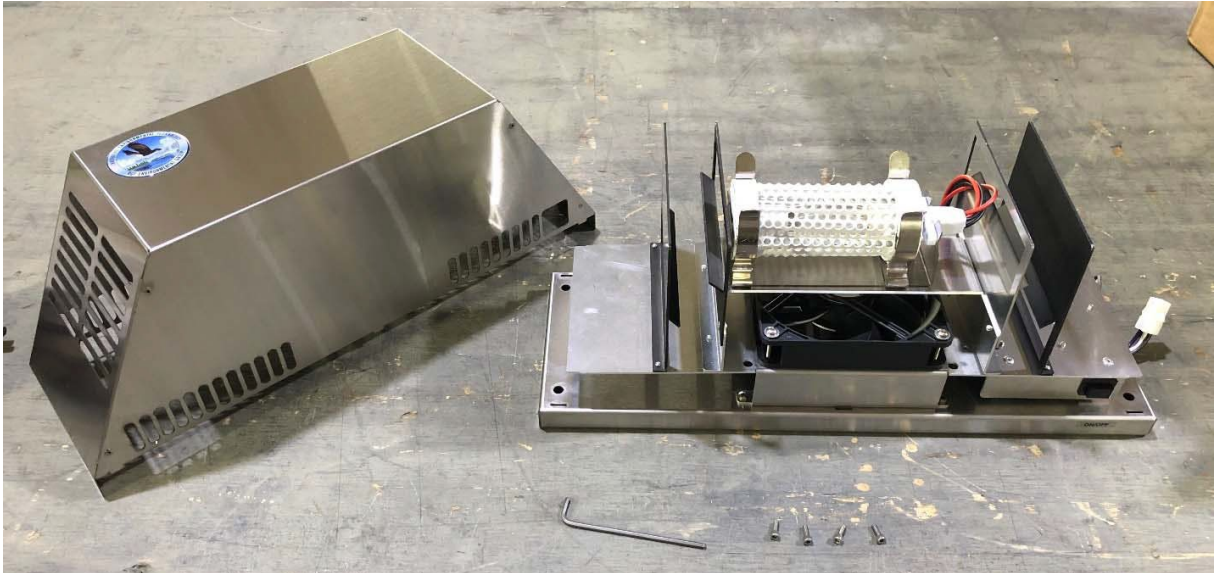

Figure 6 - UNIT COVER REMOVED
2. The cover can then be lifted straight up to be removed. See Figure 6 below.